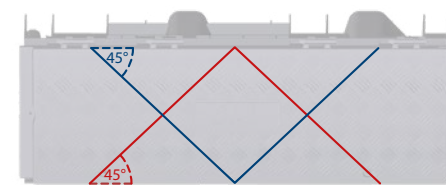

Figure 1: Cutting paths for 90° angular element
2. Mark the cutting lines on the top and sides of the cable duct using the cutting paths shown in Figure 1 and Figure 2 respectively. Observe the color-coded cutting paths for left- and right-sided route changes.